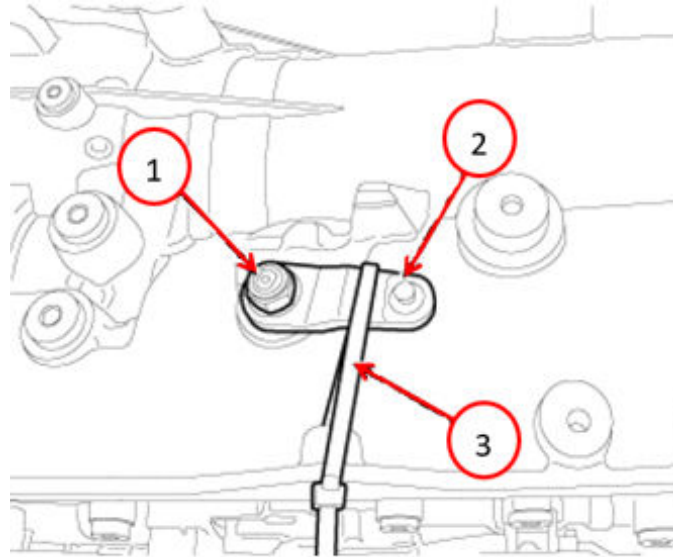

Fig. 40
61. Temporarily install the Manual Park Release (MPR) lever to release tension on the shift fork as follows Fig. 40: